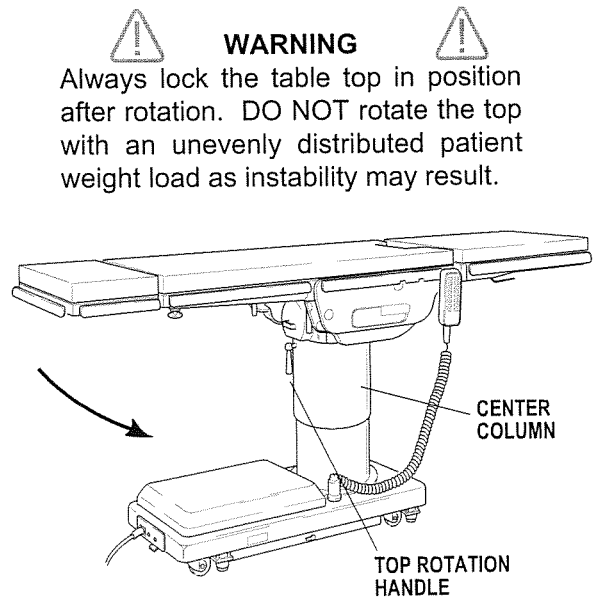

Figure 3-18. 180 Degree Top Rotation
a. The table top can be horizontally rotated 180° without having to rotate the entire table. To rotate the top, turn the TOP ROTATION LOCK HANDLE counterclockwise (figure 3-18), grasp the table by the head end and rotate the top 180° counterclockwise. Lock the top in position by tightening the TOP ROTATION LOCK HANDLE clockwise.